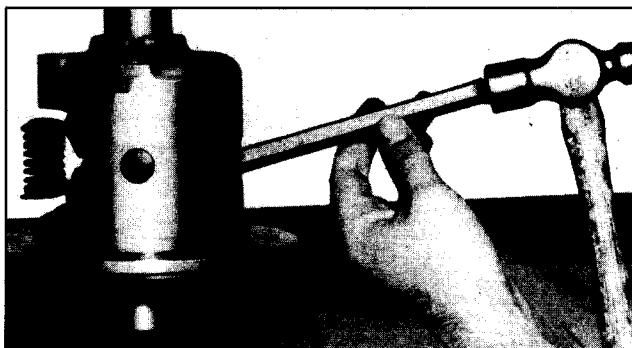

Fig. 4D-4 Partial Removal of Preload Springs and Retainers
3. Insert a brass drift through observation hole in the case and by tapping on the spring retainers, partially remove the preload springs and retainers. See Fig. 4D-4.